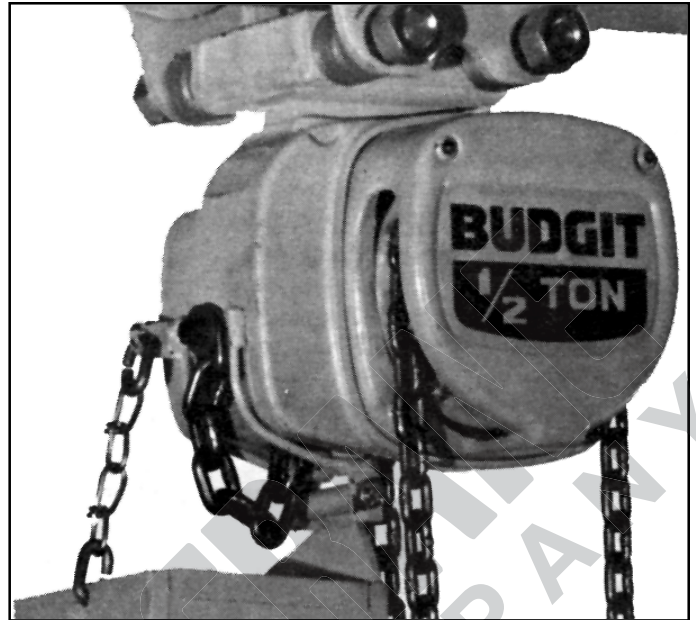

Figure 10-3. Complete Installation
g. Open split link (see paragraph 2-2) and connect loose end of support chain to open hole in outstanding leg of chain container bracket. See Figure 10-3. Twist link closed.